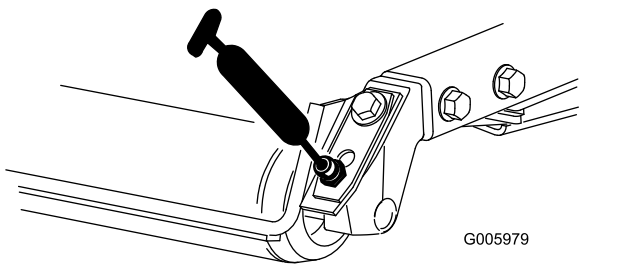

Figure 41
- Rear roller bearings (2 per cutting unit) as shown in Figure 41